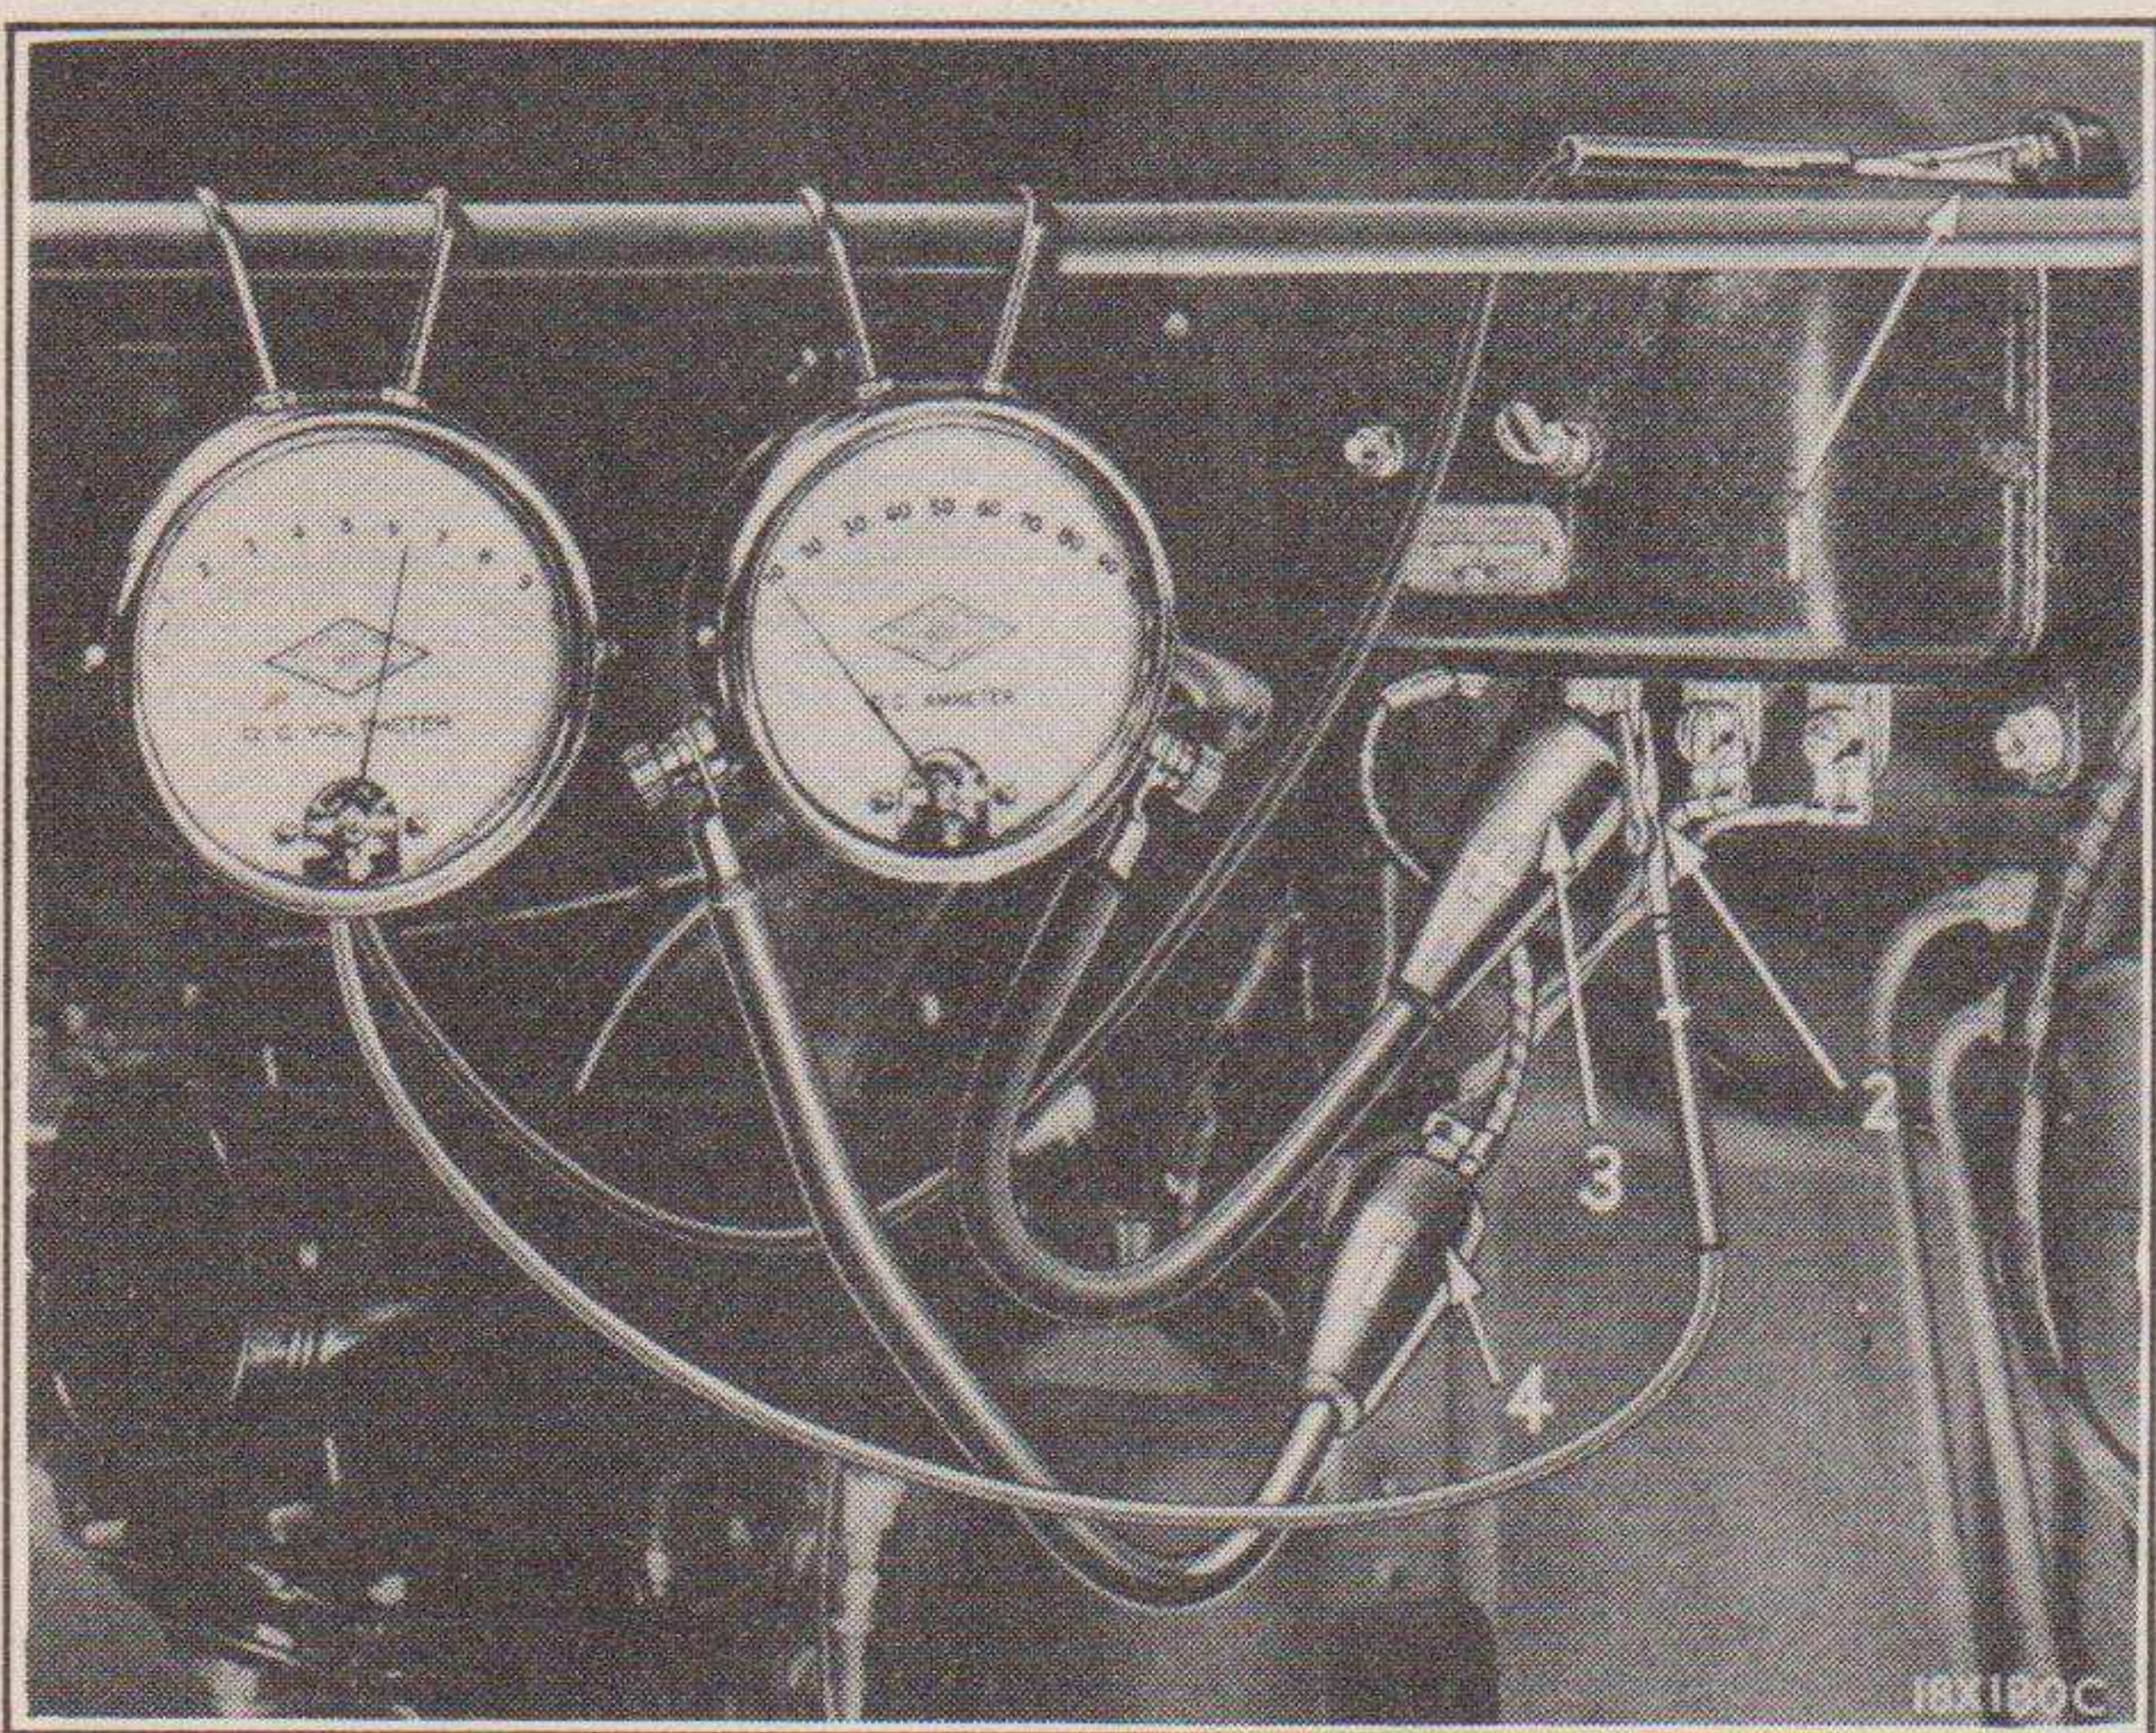

Fig. 113—Generator Regulator Test Connections
Connect the ammeter negative lead to the wire removed from regulator "B" terminal and the ammeter positive lead to regulator "B" terminal, (see Fig. 113), in order to establish a 10 ampere charge rate. *All resistance checks described in this manual should be made with the engine running and generator charging 10 amperes.*
**IMPORTANT**—A majority of vehicles have the positive post of the battery grounded and the negative post connected to the wiring circuit. All of the recommended tests outlined in the following paragraphs, however, are based on a negative ground system. The same tests may be applied to a vehicle with a positive ground system by reversing the meter leads from that recommended for the negative ground system. The illustrations, Figs. 113 and 115, apply to a system with a negative ground polarity.